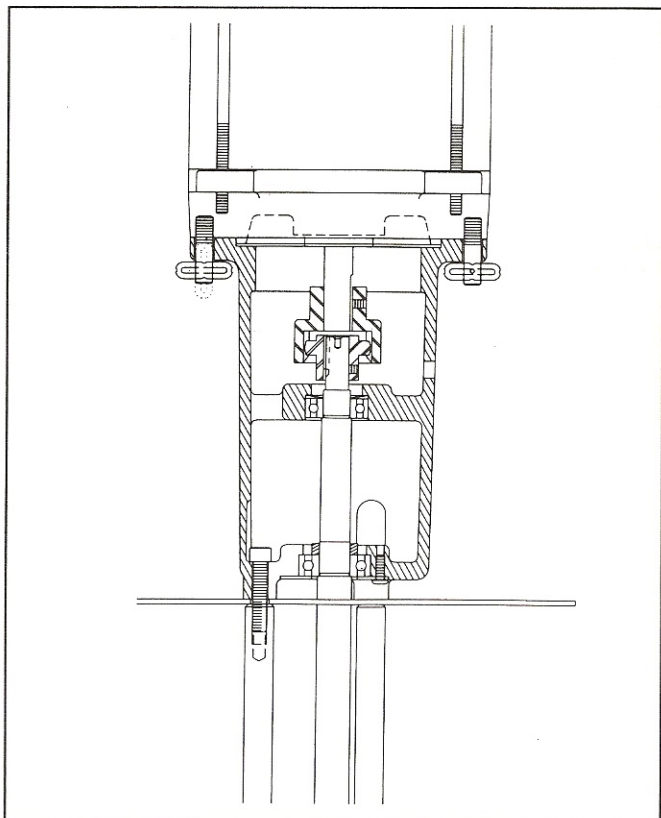

Figure 15. "QD" Series Motor
B. "QD" and "QE" Series Motors (Figures 15 & 16):